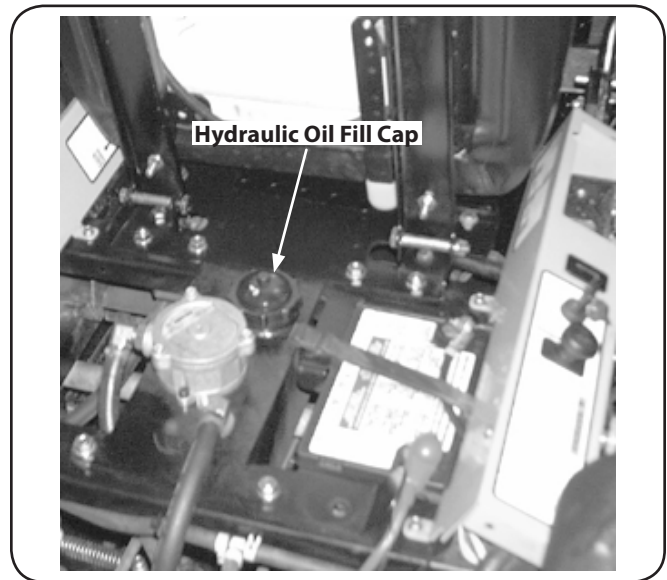

Figure 6-1
3. Clean the area around the Hydraulic Oil fill neck. See Fig. 6-1.